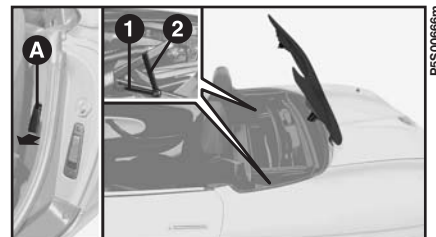
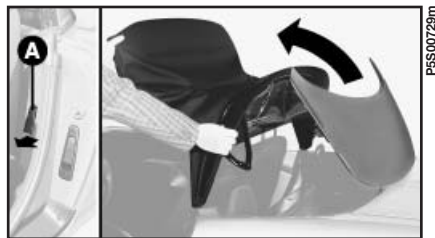

fig. 58
fig. 59
2) Make sure that the boot is closed properly, then lift lever **A**-**fig. 58** (the lever nearest the seat) to release the hood housing cover. A beep, however, will inform you if the boot has not been closed properly.
4) Turn the hood fastener from position 2-fig. 58 to position 1 so that it rests in the appropriate recess. Do the same operation on both sides. Working from outside the car, lift hood with one hand until you can grip the rear part of the hood with the other hand. Keep the hood folded, and pull it right to the front of the car so you can close the hood compartment cover, fig. 59. Make sure the catch on the cover has caught properly.